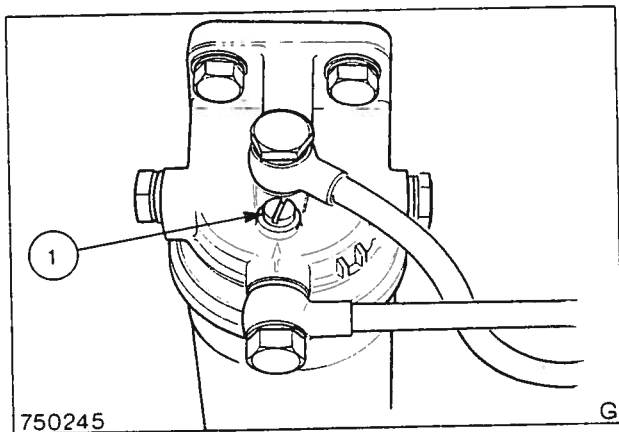
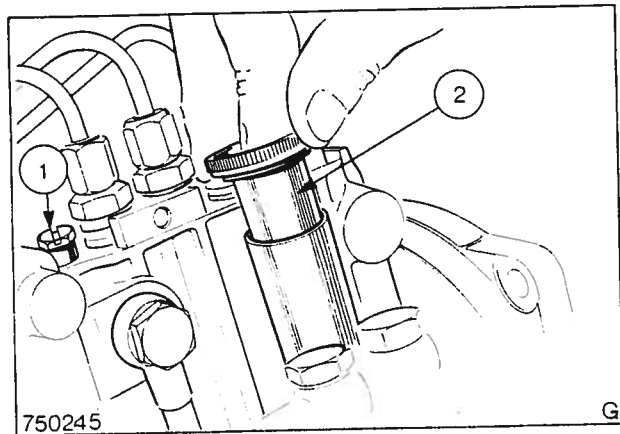

Fig. 74
Fig. 75
2. Loosen the bleed screw on top of the filter two or three turns, Fig. 74, and operate the priming pump on the fuel lift pump, Fig. 75. Continue pumping until a stream of fuel, free of air bubbles, issues from the filter.